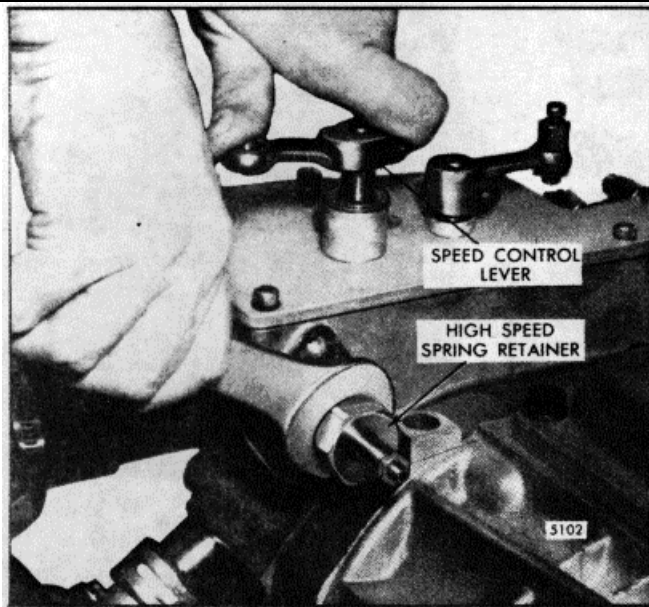

Fig. 7. - Adjusting Maximum No-Load Speed
1. Loosen the spring retainer locknut and back off the high-speed spring retainer approximately five turns (Fig. 7).